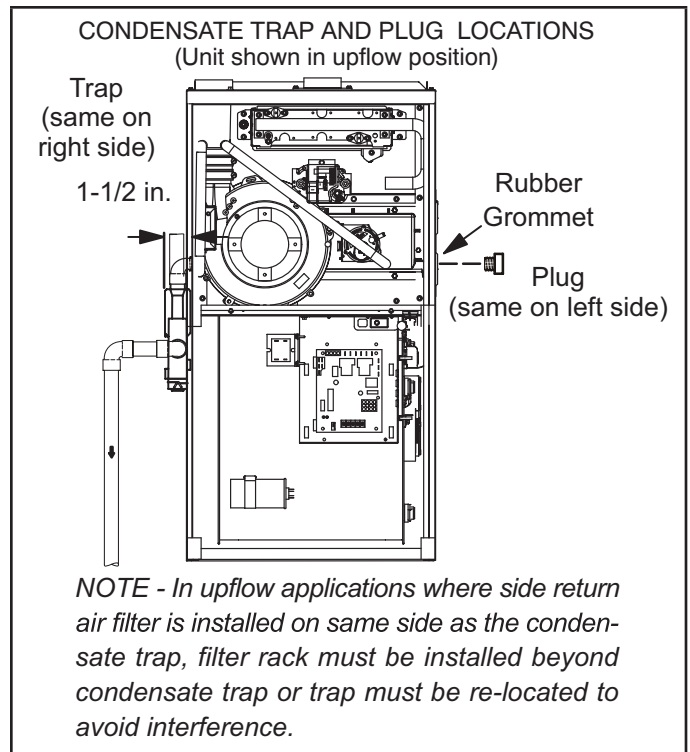
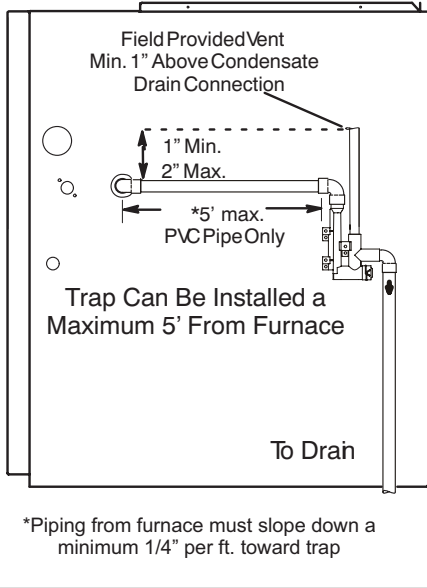
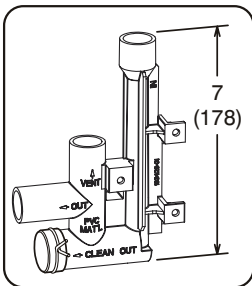

FIGURE 41
FIGURE 43
FIGURE 49
This unit is designed for either right- or left-side exit of condensate piping in upflow applications. In horizontal applications, the condensate trap must extend below the unit. An 8" service clearance is required for the condensate trap. Refer to FIGURE 41 and FIGURE 43 for condensate trap locations. FIGURE 49 shows trap assembly using 1/2" PVC or 3/4" PVC.
- 2 - Use a large flat head screw driver or a 1/2" drive socket extension and remove plug (FIGURE 41) from the cold end header box at the appropriate location on the side of the unit. Install provided 3/4 NPT street elbow fitting into cold end header box. Use Teflon tape or appropriate pipe dope.
- 3 - Install the cap over the clean out opening at the base of the trap. Secure with clamp. See FIGURE 49.
- 4 - Install drain trap using appropriate PVC fittings, glue all joints. Glue the provided drain trap as shown in FIGURE 49. Route the condensate line to an open drain. Condensate line must maintain a 1/4" downward slope from the furnace to the drain.